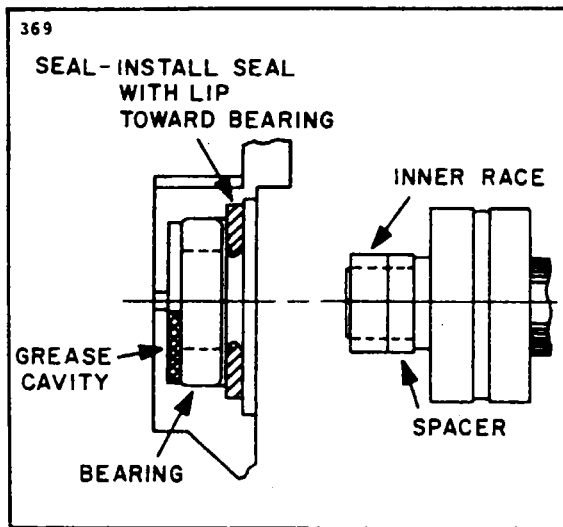

Figure 11-27. Slip Ring End Bearing Assembly
e. Install the slip ring end bearing and oil seal. Make sure the lip of the oil seal is toward the bearing. Correct assembly of bearing, seal, inner race and spacer is shown in Figure 11-27. Stake the seal in place.